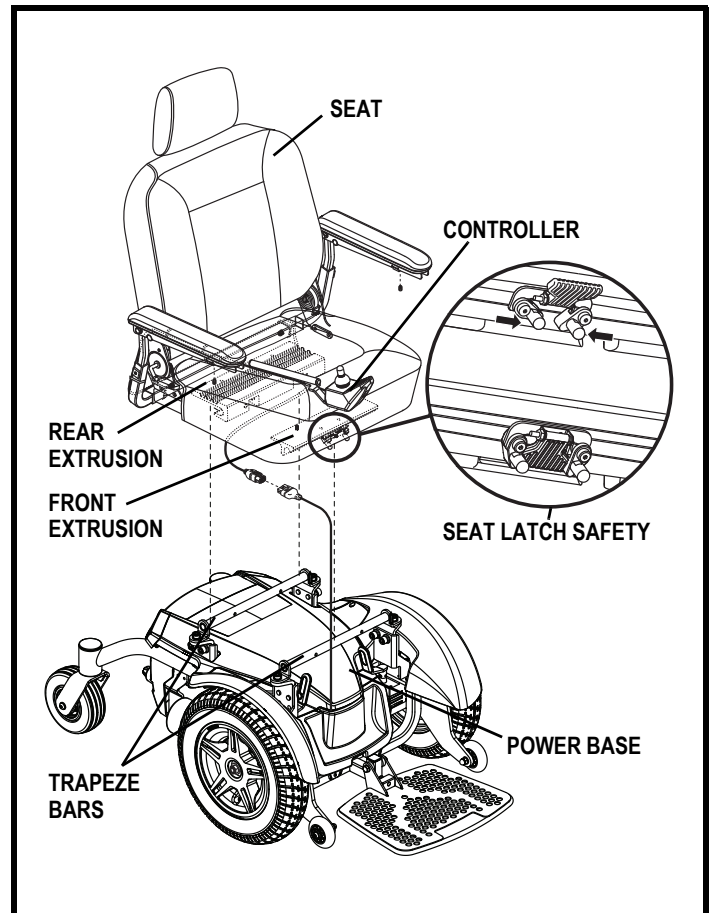

Figure 6. Seat and Controller Assembly
It may be necessary to install the seat either prior to initial operation or after transporting your power chair. Contour seats are attached to the power base with the Universal Mounting System (UMS). The UMS consists of universal parts that may be attached to the seat, regardless of seat width or seat depth. The two main components are aluminum extrusions mounted to the seat base. These extrusions attach to a pair of trapeze bars that are mounted to the power base. See figure 6.
1. Tilt the seat back and slide the rear extrusion onto the rear trapeze bar. See figure 6.
4. Flip up the seat latch safety. **See figure 6.**
7. Remove the hardware that attaches the trapeze bars to the seat interface weldments. **See figures 6 and 8.**